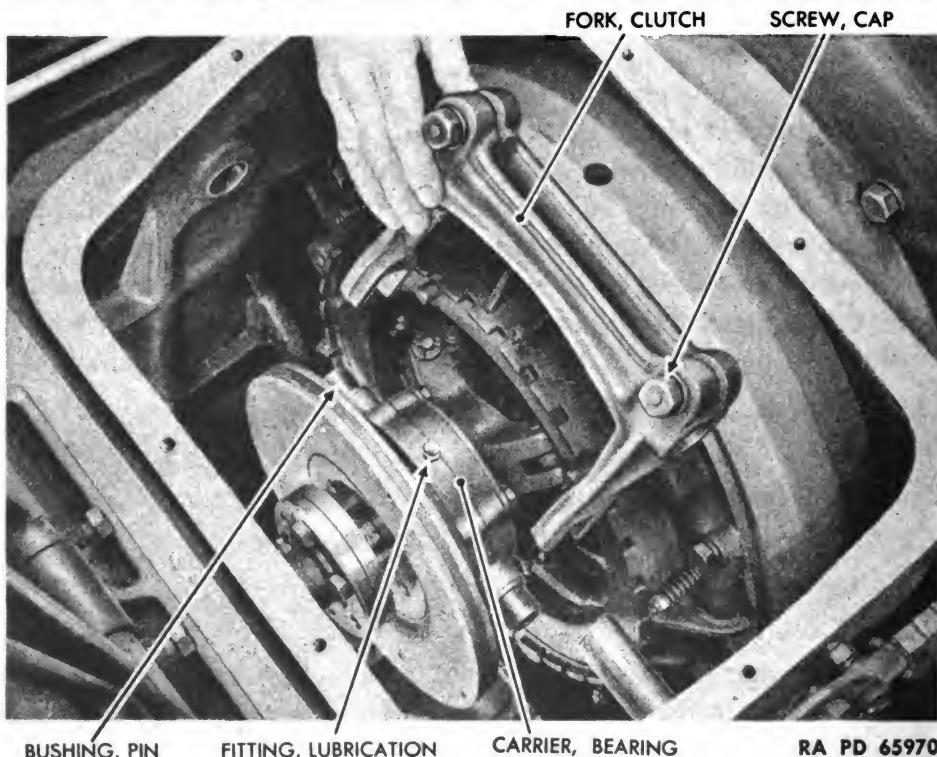

Figure 27 – Clutch Fork Installation
(5) INSTALL THE CLUTCH FORK (fig. 27).